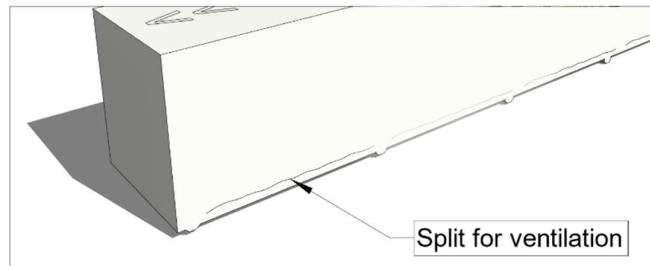

Fig. 5.3
5.3 Split bottom wrapping as shown for ventilation (figure 5.3).